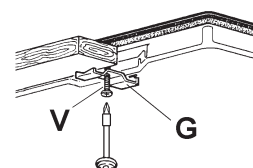

Fig.6
- Introduce and place the cooktop in the hole made in the piece of furniture, then block it with the V screws of the fastening hooks G (fig.6).